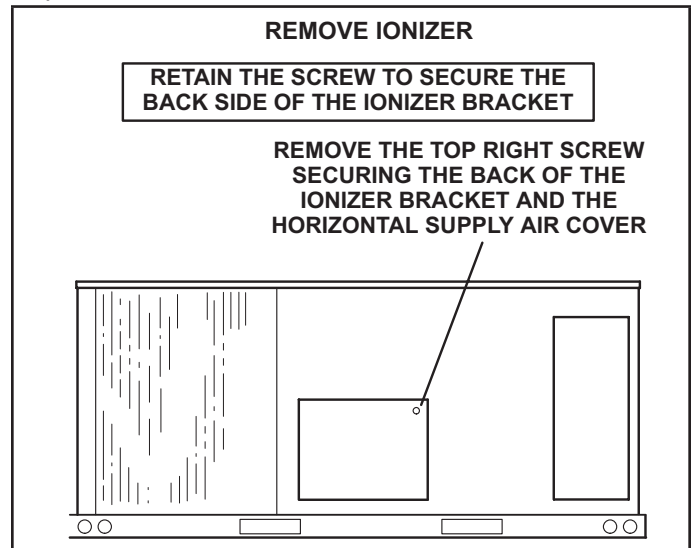

FIGURE 44
- 1 - On the back side of the unit, remove the screw securing the back of the ionizer bracket. See FIGURE 44. Retain the screw to secure the back side of the ionizer bracket.